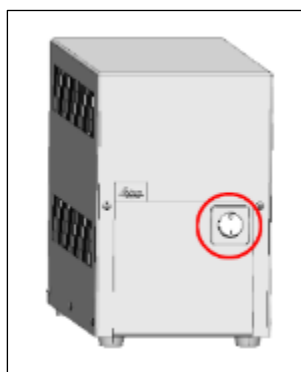
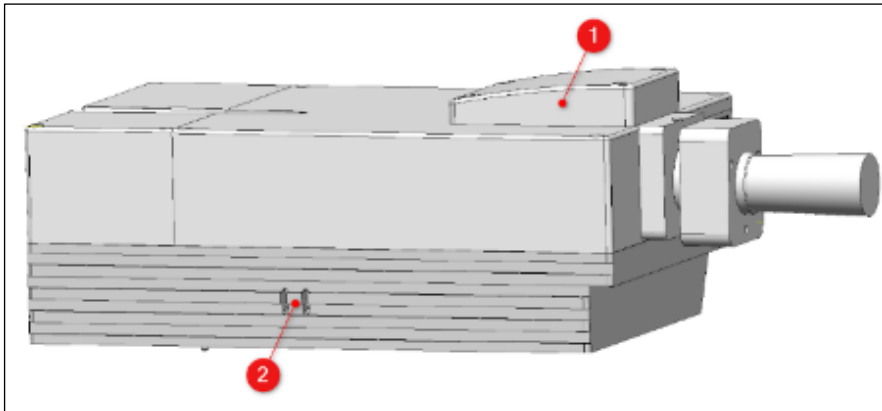

Figure 53: HyD RLD supply unit
Figure 54: HyD reflected light detectors (HyD RLDs)
If you are using HyD RLDs you must switch them on before LAS X starts. Otherwise, the LAS X software cannot initialize the detectors. The HyD RLDs consist of a supply unit (see Figure 53) and a detector module (see Figure 54).
- The power switch for switching on and off the power supply and the cooling for the detector module is located on the front side of the supply unit (see Figure 53).
For image acquisition, activate the detectors in LAS X. The yellow status LED (see Figure 54, position 2) flashes if photons are being detected.
Status LED color (See Figure 54, position 2)	Meaning
- The filter cube cover (see Figure 54, position 1) ensures the housing's EMC stability and prevents light from entering or exiting.